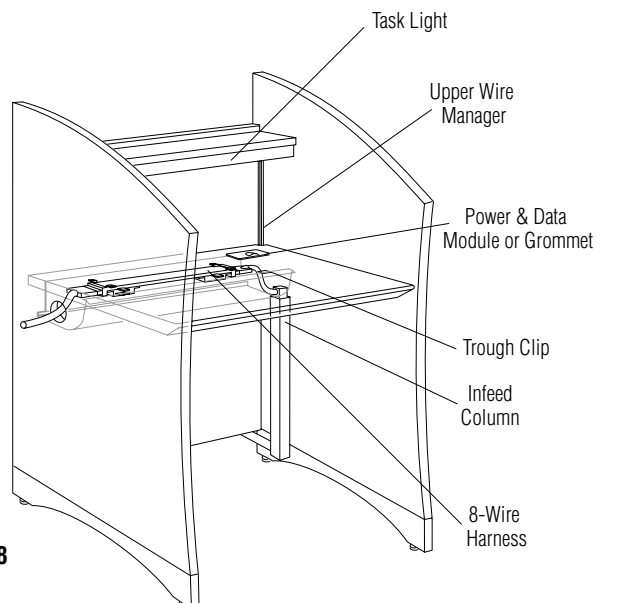

Figure 8
18. Snap the power & data module into place on the top of the worksurface with the electrical cord feeding through grommet opening (Figure 8). Plug the cord into the optional duplex receptacle.